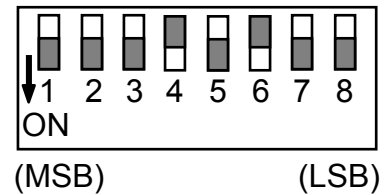

Figure 3. IP Address Selector Switch
1. Set a temporary IP address using the DIL switches. This provides an IP address on the Technology Option. For example, set IP address 192.168.0.20. Refer to Figure 3.